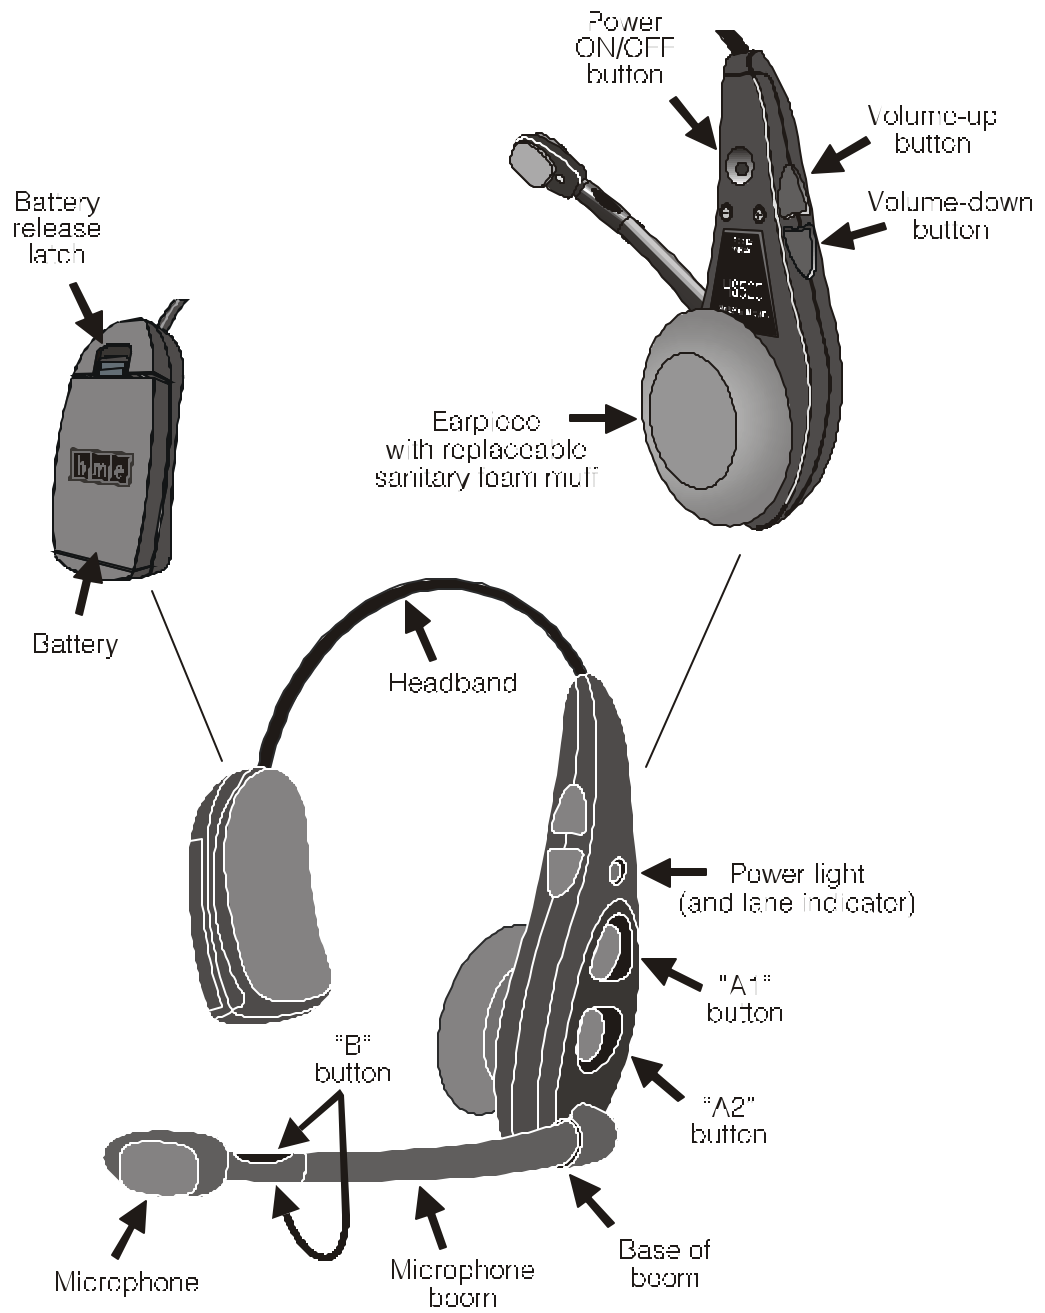

Figure 3. Headset features and controls
- Hold the microphone boom at its base (See Figure 3) and pivot the boom up or down to adjust the microphone position to the side of your mouth as shown in Figure 4.